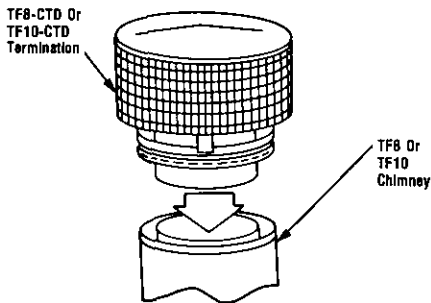

Figure 33
- 1) Hold CTD over top of last chimney section (Figure 33).